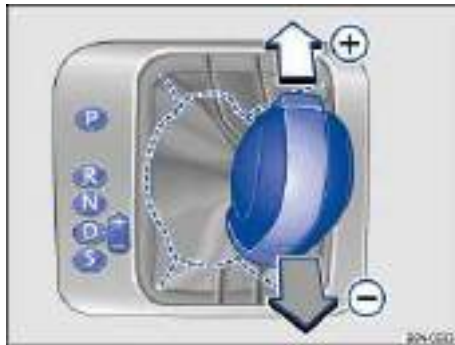

Fig. 141 Selector lever in Tiptronic position.
- Briefly push the selector lever forward **(+)** to upshift into a higher gear or backward **(-)** to downshift into a lower gear ⇒ fig. 141.